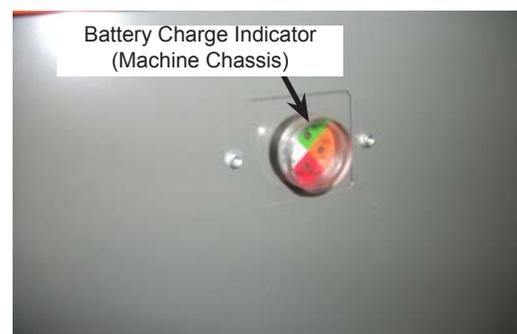

Figure 2.3 – Electrical Compartment
5. Visually inspect the battery charge indicator (refer to Figure 2.3).